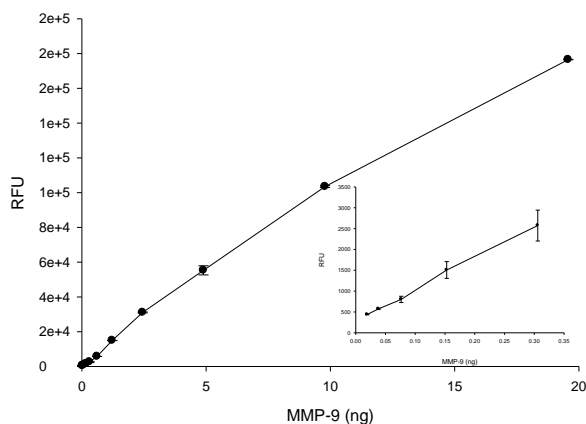

Figure 1. Detection of MMP-9 activity with the SensoLyte[®] 520 MMP-9 assay kit.
- Plot data as RFU versus concentration of test compounds or enzyme concentration (Figure 1).
- The sensitivity of this FRET-based assay was showed as in **Figure 1**.